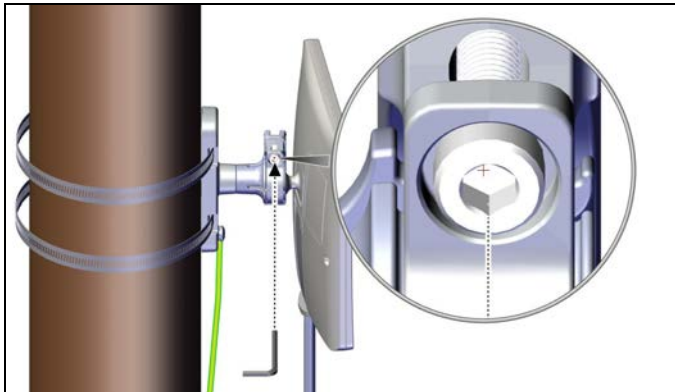

Figure 2-54: Use hex screw to further tighten arm on mount: SU PRO/AIR radio unit
5. If the unit requires more tightening, use the hex screw with a 5mm hex key as shown in Figure 2-54.